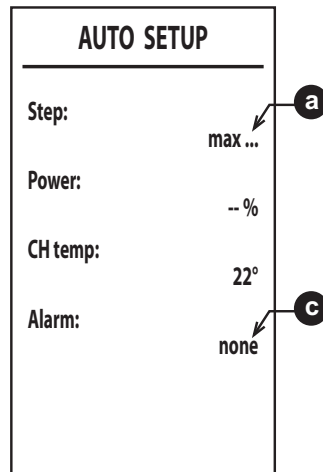

fig. 52
6. After ignition, the burner goes to heating at the various powers (max, med, min) indicated by point **a** (fig. 52).
8. If the ignition sequence described in point "6" is not successful, the message **max_err** at point **a** and an error code at point **c** will appear (fig. 52).